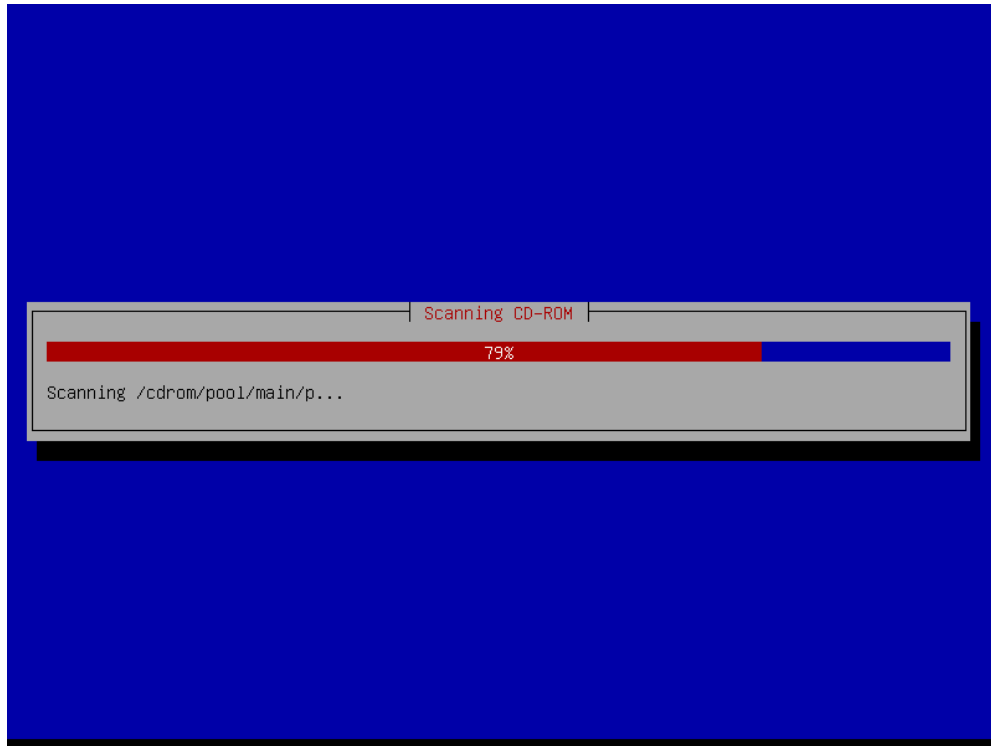

Figure 57: Installation progress bar
- 8. **Stage 1** of installation process will begin. This process will take approximately 20-25 minutes. Screen shown in **Figure 57**.